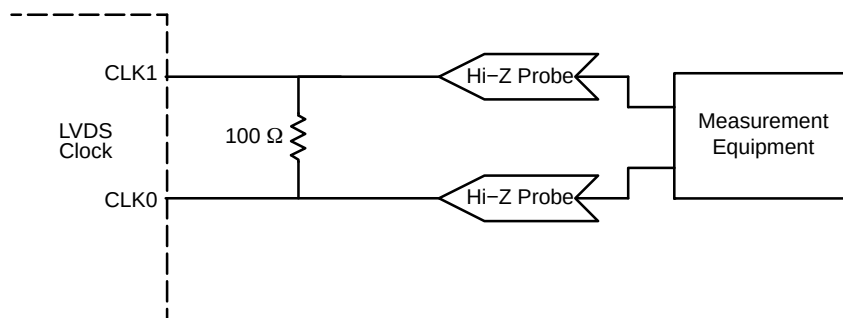

Figure 9. LVDS Parameter Measurement
13. LVDS outputs require 100 Ω receiver termination resistor between differential pair. See Figure 9.
| $t_{JITTER-2.5\text{ V}}$ | Period Jitter Peak-to-Peak | Configuration Dependent. 25 MHz xtal input, $f_{out} = 100\text{ MHz}$ , SS off, CLK2 = OFF (Note 22 and 24, see Figure 9)      |     | 100 |     | ps |